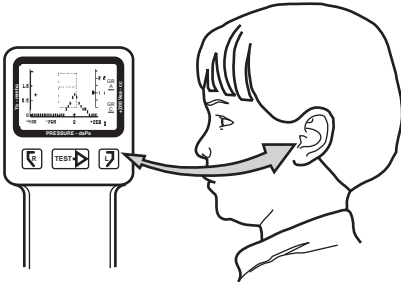

Figure 7
- To store the results of the test, press the button which matches the tested ear, as illustrated in **Figure 7**.